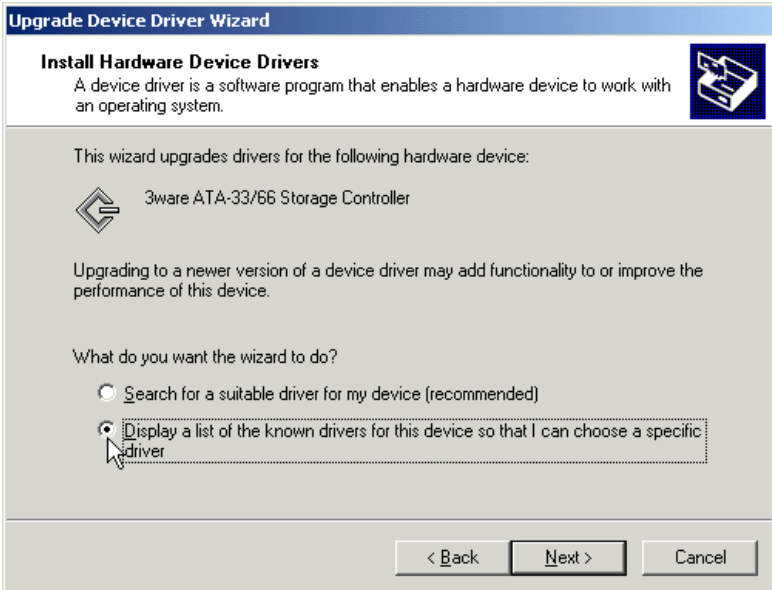

Figure 39. Update/Install device driver
- 1 Once you reach the screen display shown in Figure 39, **Update Device Driver**, ensure that you select “Display a list of known drivers for this device, so that I can choose a specific driver.” Afterwards, press **Next** and follow the instructions.